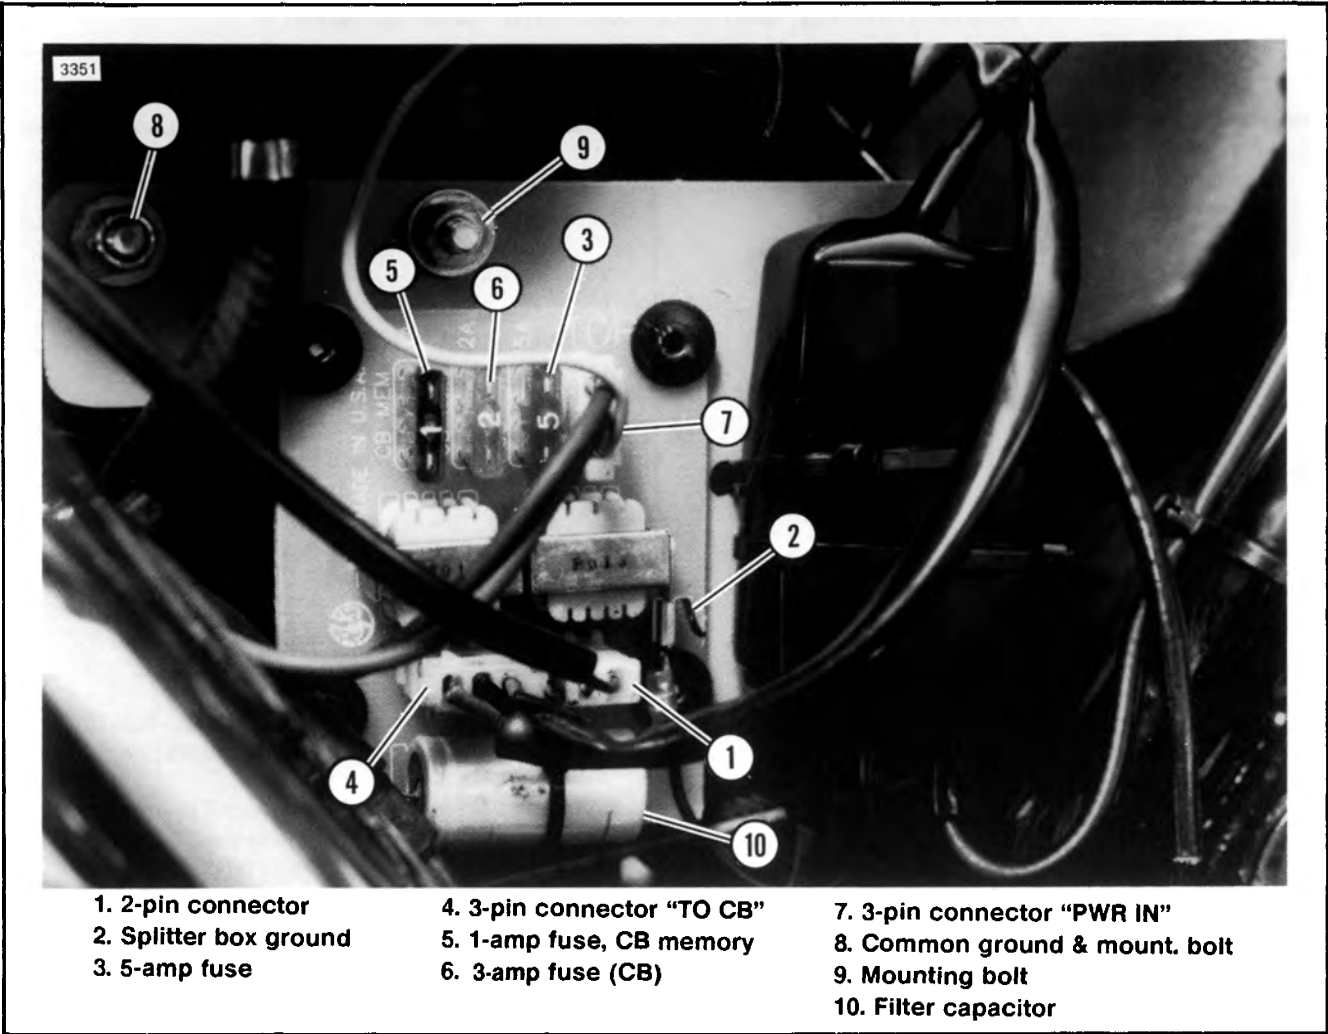

Figure 8-46. Fuse / Filter Board
4. Fuse/filter panel ground	See figure 8-46. Bolt (8) is common ground point.
8. Splitter box to fuse/filter panel ground	See Figure 8-46. Check that splitter box ground wire is connected at (2). Check with ohmmeter between terminal (2) and crankcase.
1.4 Malfunction in fuel tank console panel (pod) circuitry	1.4.1 Remove seat and left side cover. See figure 8-49. Disconnect DIN connector (1) and 1-pin connector (4). Connect one probe of ohmmeter to single pin-half of connector (4), that is the lead connected to the console pod. See Figure 8-46. Unplug 2-socket "To Pod" connector (1) on fuse board. Connect the other ohmmeter probe to the black wire in connector (1). Ohmmeter must read 2.0 ohms minimum. If ohmmeter reading is less than 2.0 ohms, the console pod is faulty and must be replaced. See REMOVAL AND INSTALLATION. Check the pin half of the DIN connector (1) to determine if it has been sealed against moisture as described in Service Bulletin M-979. If the pin half of the DIN connector (1) is not covered with shrink tubing, refer to Service Bulletin M-979 and perform the sealing operation.
14. After a SWR of 2:1 or less has been obtained, replace splitter box plastic cover and install cable straps as shown in Figure 8-46.
1. See Figure 8-46. With ignition switch ON, place negative probe of voltmeter on splitter box ground (2) and positive probe on orange wire in connector (1). Battery voltage, 12 vdc must be present or 5 amp "POD PWR" fuse (3) is blown. Replace fuse and check for short or current overload.
2. Turn ignition switch OFF. With ohmmeter, check from black wire to ground at panel ground bolt (8). Meter should indicate 0 ohms.
1. See Figure 8-46. With ignition switch ON place negative probe of voltmeter on black (middle) wire of connector (4) and positive probe on red wire. Voltmeter must indicate 12 vdc or 1 amp "CBMEM" fuse (5) is blown. Replace fuse and check for short or reason for current overload.
2. Move positive probe to orange wire, 12 vdc must be present or 3 amp "CBPWR" fuse (6) is blown. Replace fuse and check for short or reason for current overload.
1. With ignition switch ON (See Figure 8-46), place negative probe of voltmeter on green (middle) wire of connector (7) and positive probe on orange wire. Meter must read 12 vdc, the input for both 3 and 5 amp fuses. If voltage is not present, see Wiring diagram at rear of manual and measure voltages and check continuity to find problem.